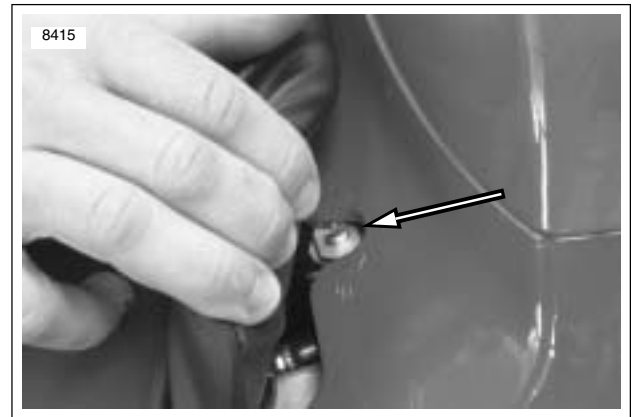

Figure 1-33. Accessing Rear Shock Compression Adjuster
2. See Figure 1-33. In order to access the rear shock compression adjuster pull back the left rear corner of the rider seat.